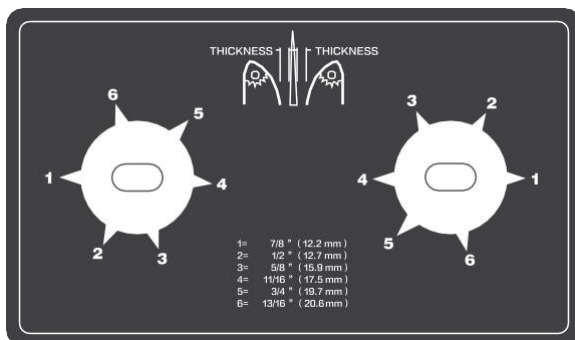

Figure2
1、 Adjust the bread thickness adjustment control (Figure 2) to the desired setting (depending on the supplier's bread).